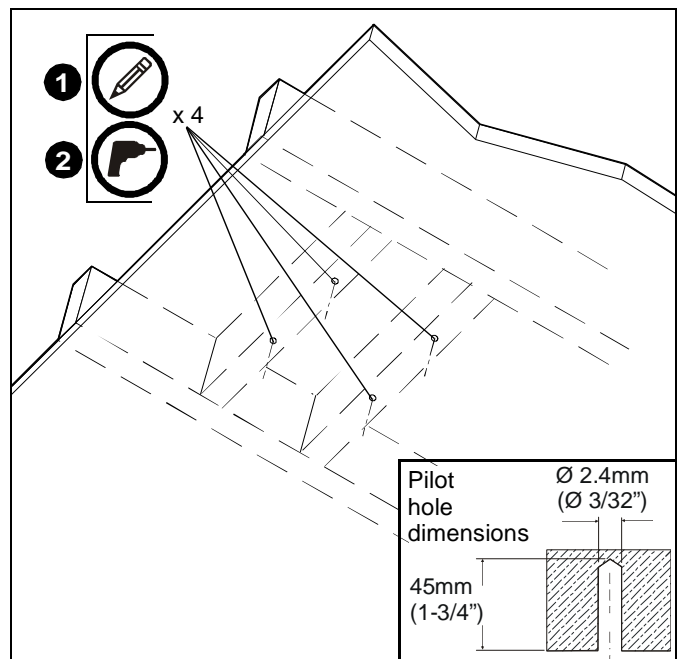

Figure 6
1. Using the RPME as a guide, mark four mounting hole locations. (See Figure 6)